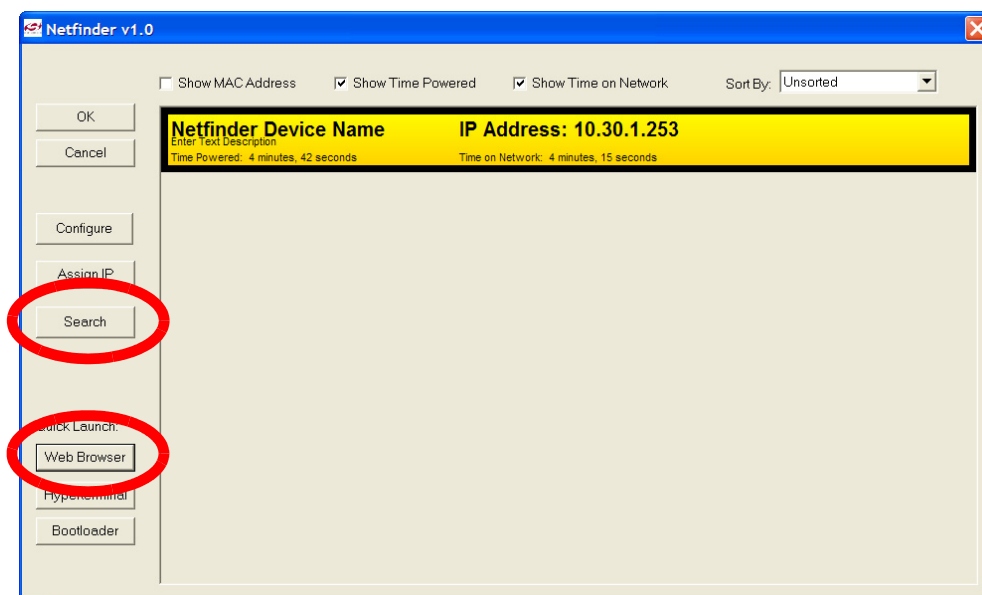

Figure 23. Web Browser Quick Launch Button In Static IP Address Mode
8. Select the device by **clicking inside the yellow area** and **pressing the Web Browser quick launch button** as shown in Figure 23.